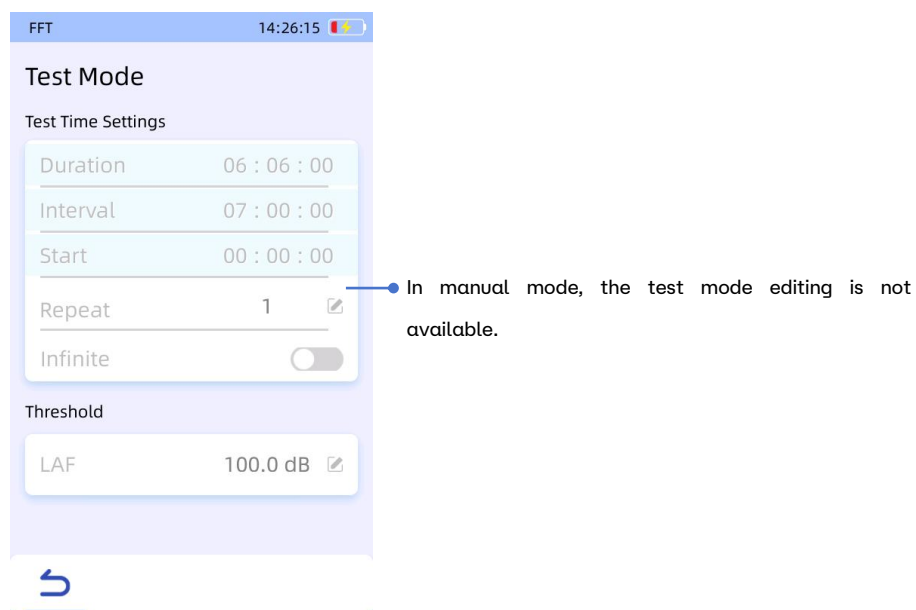

Fig 6.58 Manual Mode Parameter Settings
- a. Manual Mode: Manually start and stop measurements in the main interface's button area. Figure 6.58 shows that in Manual Mode, the test can only be controlled manually by the user to start, pause, and end; thus, the test time settings in Test Mode Settings are ineffective and cannot be edited.